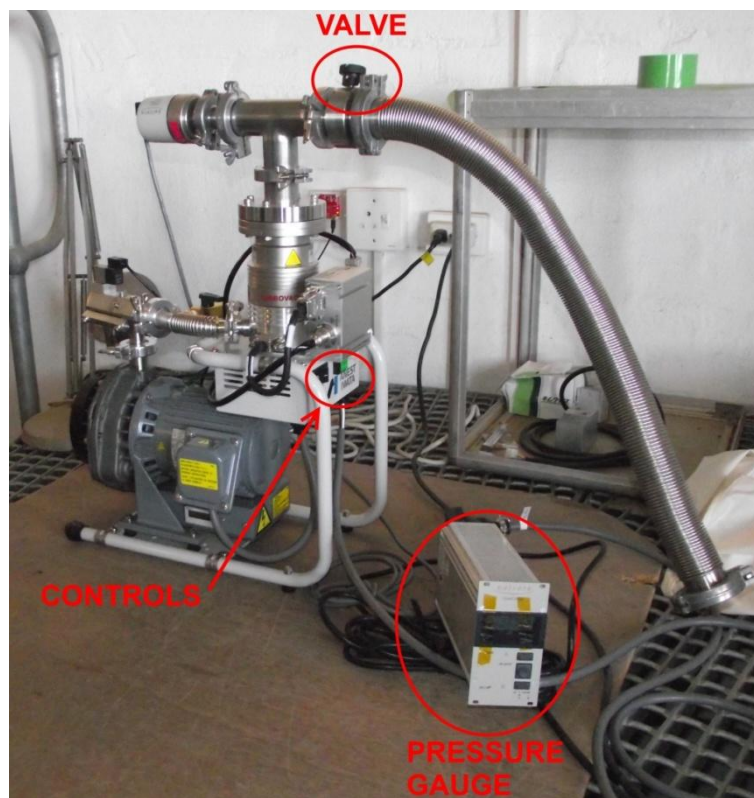

Figure 1: The IRSF Vacuum pump
1. Open the valve on the pump (see figure 1).